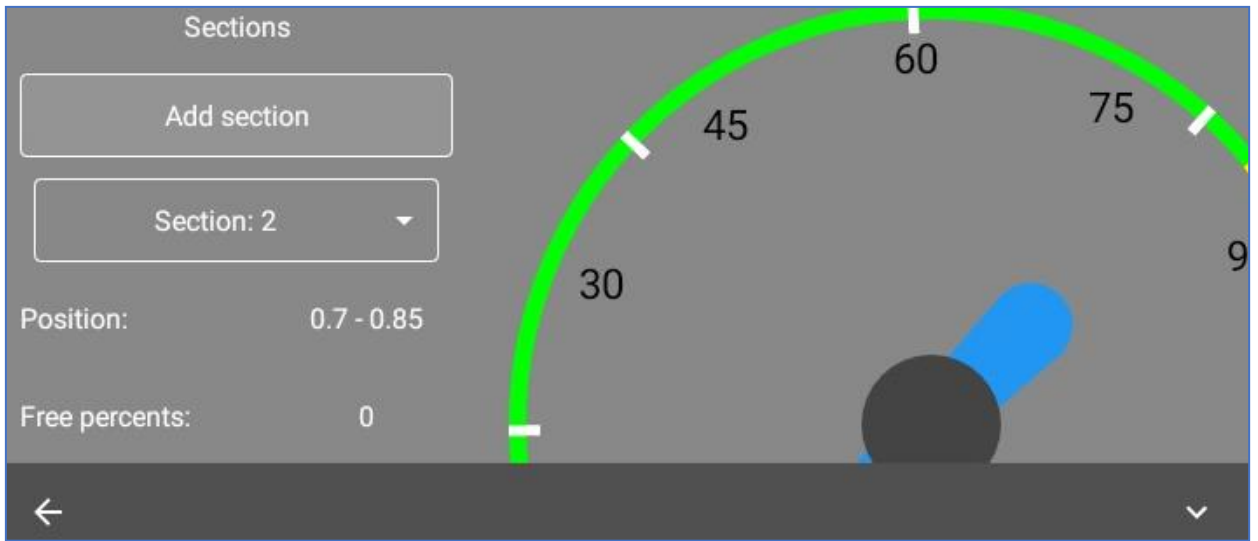
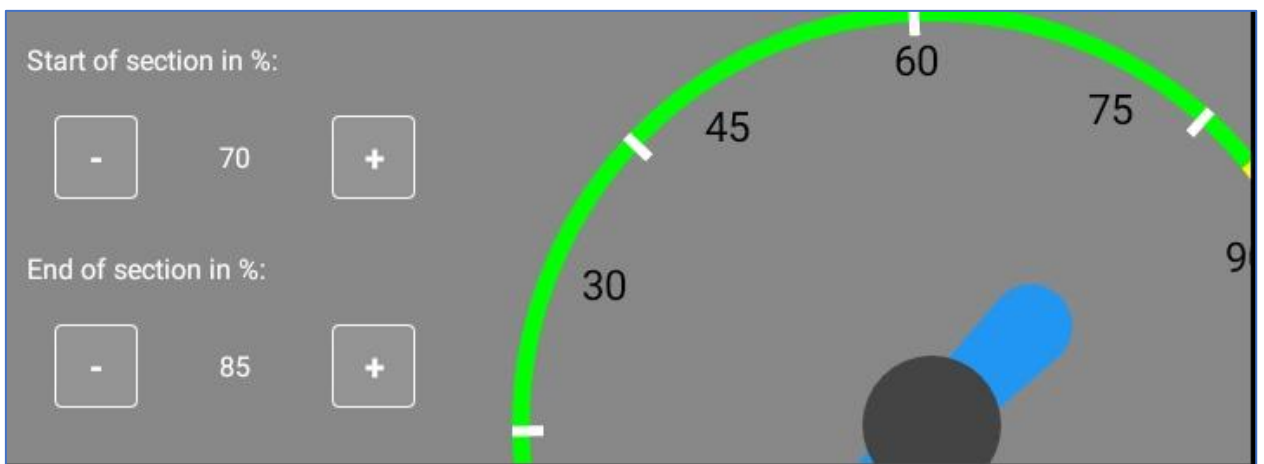

fig.4.10. Group of settings "Section"
fig.4.11. Section settings
- **Group of settings “Sections”** allows you to create a multi-colored scale depending on the values. To do this, set the section boundaries in per cent of the maximum value (fig.4.10 and fig.4.11).